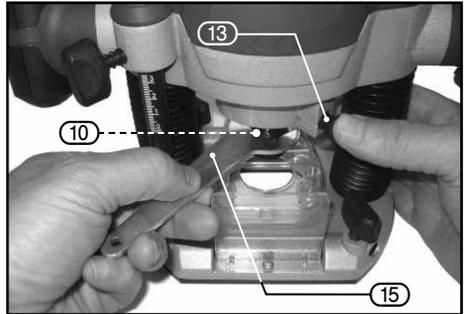

FIG.4
8.5 FITTING & REPLACING ROUTER BITS – FIG. 4